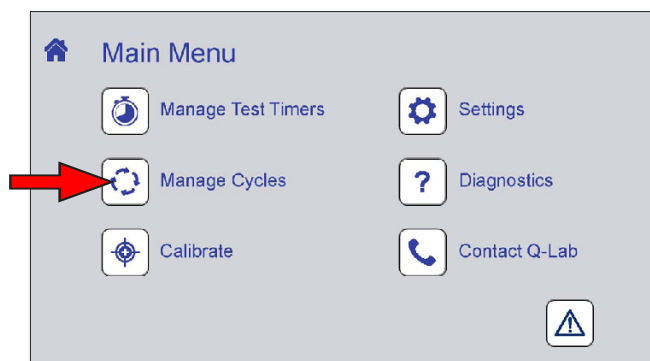

Figure 9.6.1a: Manage Cycles icon.
- On the Main Menu screen touch the Manage Cycles icon (Figure 9.6.1a) to display the Manage Cycles screen.